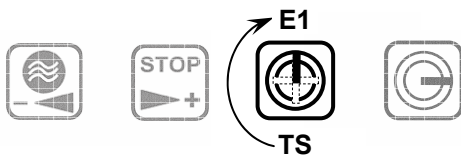

Fig. 4.7 B The key is in position E1.
5. When you have finished making the entry, turn the key back to position E1 (cf. Fig. 4.7 B). The following must appear in the display: